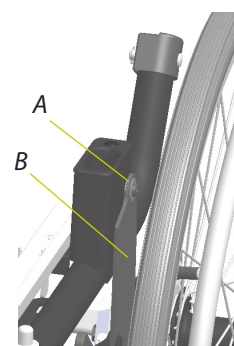

Fig 2
4. Remove the screws from both balance plates (A, fig 2).
5. Carefully press one balance plate outwards (B) so that the seat frame can be lifted off. Be careful when the seat frame comes free as there can be a pinching hazard and cables can be damaged.